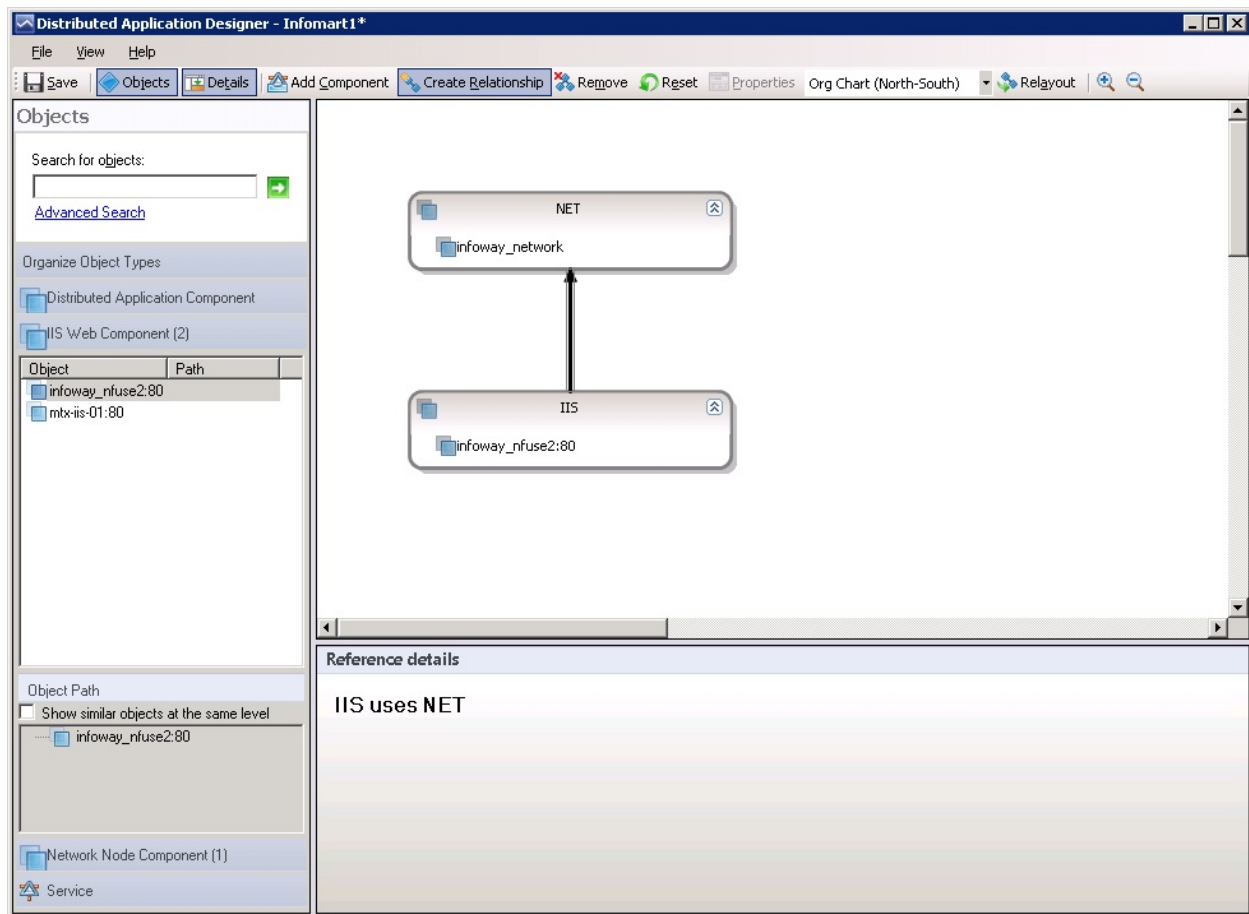

Figure 4.36: Creating a relationship between the IIS and NET components
11. Now, proceed to create a relationship between the IIS web component and the Network node component. For this, click on the **Create Relationship** button in Figure 4.35, and then draw an arrow connecting the **IIS** box in the **Designer** window with the **NET** box, as depicted by Figure 4.36. Since **IIS** is dependent on the **NET** component in our example for its functioning, the direction of the arrow should indicate the 'Uses' relationship – i.e., the arrow head should face the **NET** component. Once done, you can look up the **Reference Details** section of the **Designer** window to know whether the intended relationship has been established between the two components. For instance, in the case of our example, if this section displays the message, **IIS** uses **NET**, it is a clear indication that your 'relationship configuration' is correct.